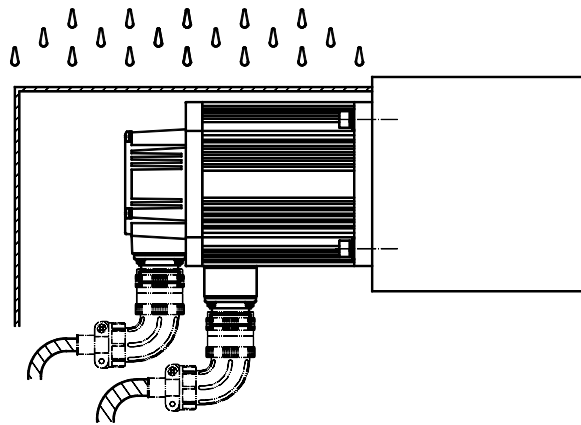

Fig. 5
9.1 The motor structure is protected based on GB 4208—2008/IEC 60529: 2001 *Cabinet Protection Grade (IP Code)*, and IP65 grade of GB/T 4942.1—2006 *Protection Grade (IP Code) of Rotation Motor Overall Structure*. It prevents the human body from touching the dangerous parts in the motor and interference from the external substance to guarantee the motor working normally. However, most of the liquid, such as the cutting fluid and lubricant, etc is with the strong seepage force, and if the motor touches such liquid for a long time, it may cause the motor can't work normally or shorten the service life. Therefore, the proper protection measure should be taken during the motor installation and try to avoid contacting the above liquid and soaking the motor in the liquid, which is shown as figure 5.
9.2 When the motor cables are arranged improperly, it may result the liquid, such as the cutting fluid, gets together at the connector along the cable lead-in, further the motor malfunction. Therefore, the motor connector side should try to get down or along the horizontal direction during installation, which is shown as figure 5.